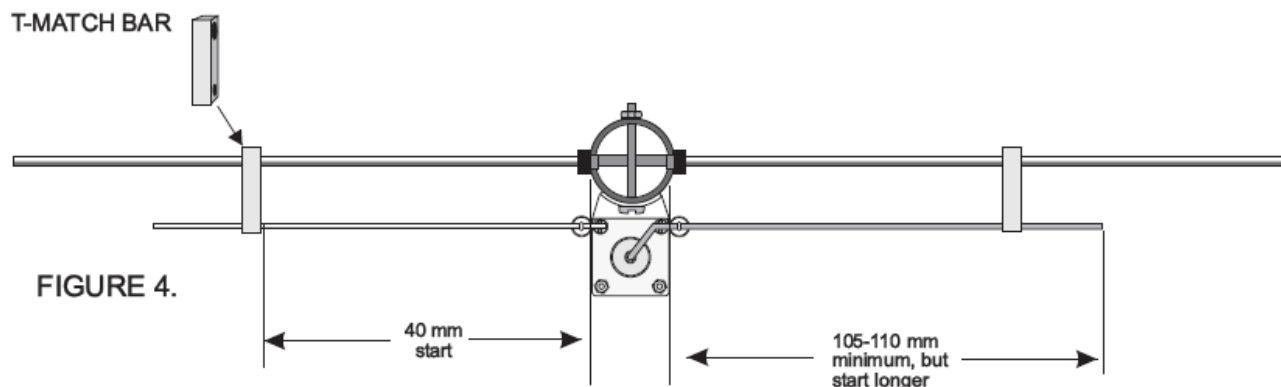

FIGURE 4.
6) The driven element and T-Match assembly are built as shown in Figure 4 and the photographs below.
7) Locate the two brass T-arms. Both are preformed- one is straight while the other is bent and on one end. Locate also the brass T-match bars, and position them on the brass driven element as shown in Figure 4.